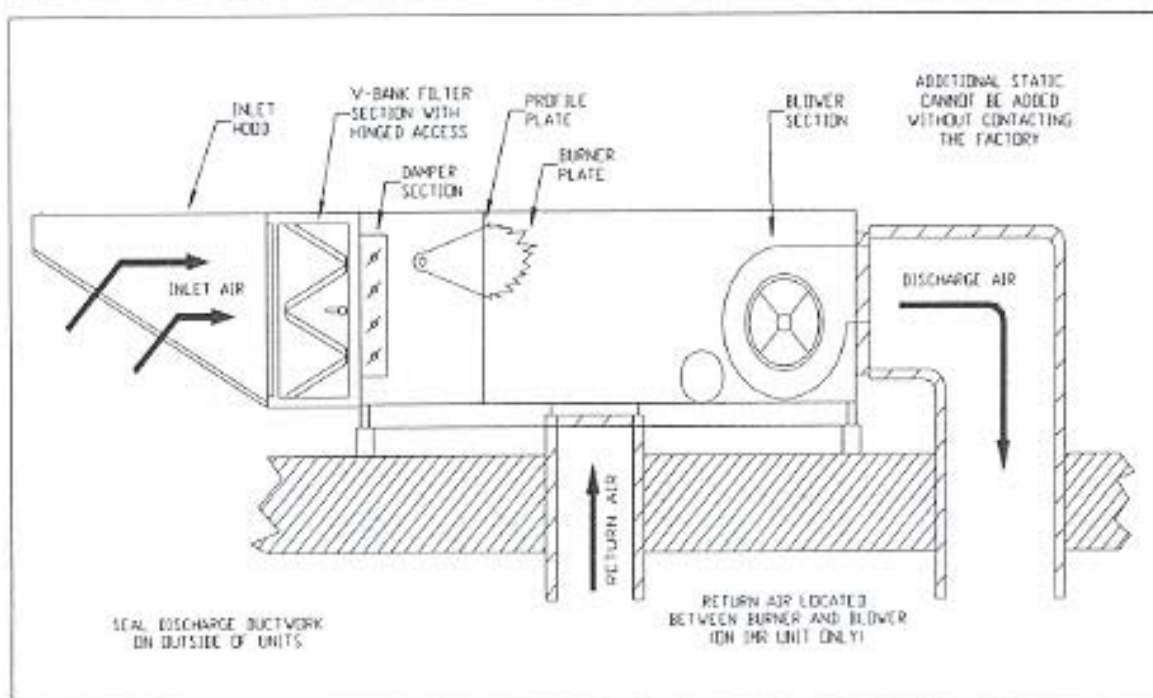

FIGURE 1 – IMR INSTALLATION
- 2.4.1 CONNECT DISCHARGE AIR DUCT OR DISCHARGE GRILLE TO UNIT OUTLET. IF UNIT IS INSTALLED ON A ROOF, BE SURE THAT THE DUCT GOING THROUGH THE ROOF IS ADEQUATELY FLASHED AND SEALED TO PREVENT LEAKAGE. (SEE FIG. 1) PROVIDE OUTLET SCREEN ON DISCHARGE OF DUCT GRILLE OR THE BLOWER DISCHARGE FOR SAFETY WHEN UNIT IS NOT DUCTED.**